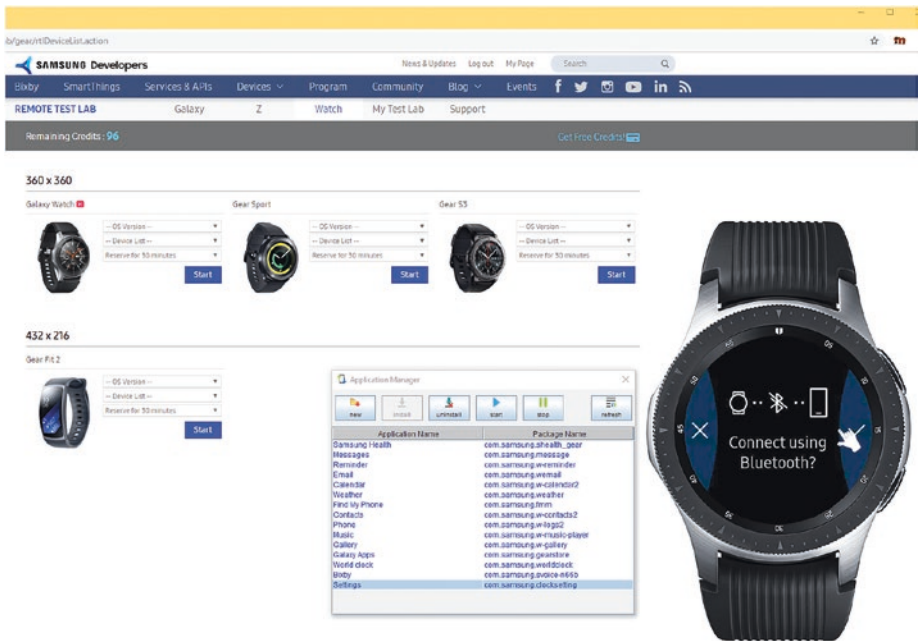
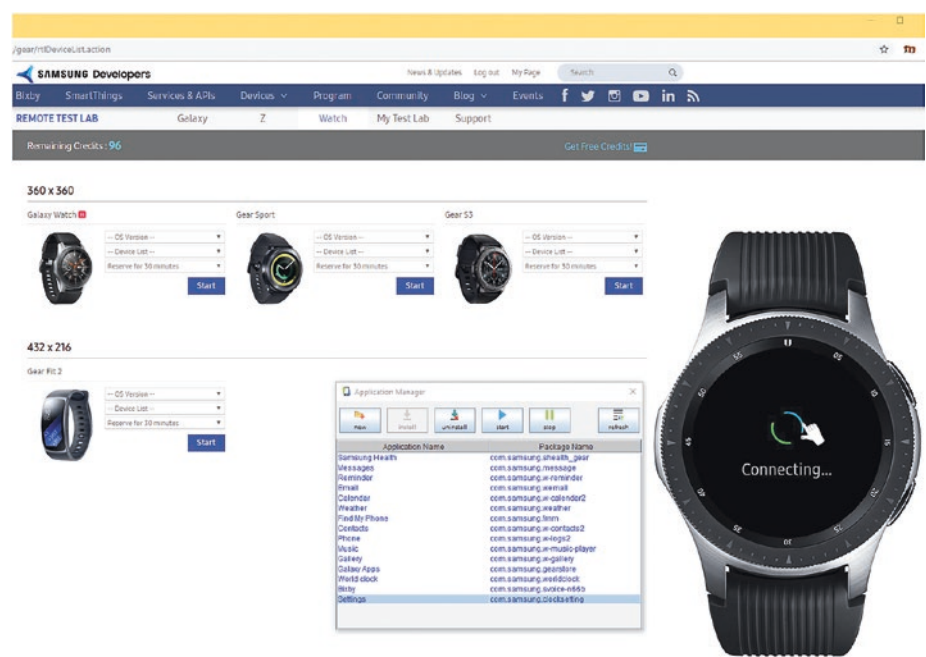

Figure 12-33. The next screen asks the User: *Connect Using Bluetooth?*
Figure 12-34. The next screen shows the spinning Bluetooth connection icon
sends the permission to your smartphone, which is running the Samsung Weather App and tells that App to tell the Open Weather Map server that it is OK to send data to the Galaxy Smart Watch. The only question is if the Samsung emulator has this capability of doing this in the emulator, given that it asks for you to connect to the smartphone using Bluetooth, as is shown in Figure 12-33. That is, does it work beyond this point in testing the watch face design or not? That is the question that we need to answer here.
Figure 12-33 shows the Bluetooth request on the watch face.
If you select the check mark (OK) option, seen in Figure 12-33, for Bluetooth connectivity, the **Connecting...** spinning icon will show on the watch face, as shown in Figure 12-34.